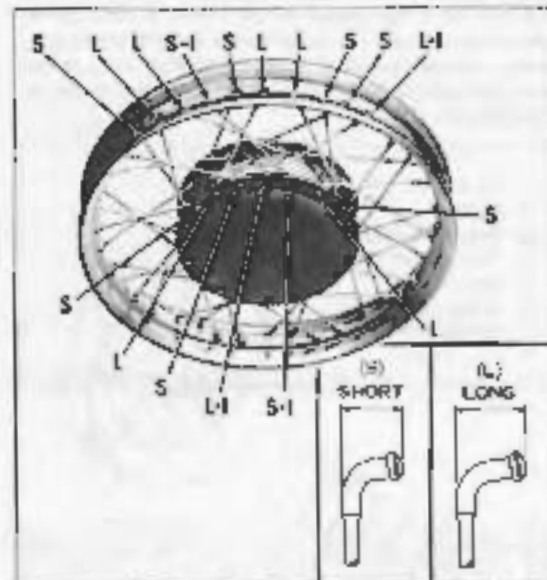

Figure 2-20. Front Wheel Lacing
Note that there are two types of spokes, long and short at bent end as shown in the figure. One long and one short spoke are used in each pair. The long spoke (L) of each pair on rim crosses over to opposite side of hub while the short spoke (S) of each pair on rim connects to same side of hub. Spoke arrangement is shown in Figures 2-20 and 2-21.
**ASSEMBLING SPOKES (Figures 2-20 and 2-21)**
9. Insert long spokes into right (clockwise hole) of each pair of holes that angles in same direction as spoke on opposite side of rim well. See L-1 in Figures 2-20 and 2-21.
10. Insert short spokes into right (clockwise hole) of each pair on near side of rim well that angles in same direction as spoke. See S-1 in Figures 2-20 and 2-21.